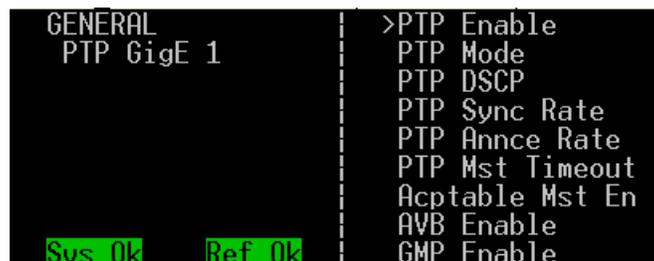

Figure 1-4: PTP GigE 1
- Enter the *PTP Enable* submenu to enable or disable PTP on the respective port (GigE 1 in Figure 1-4)